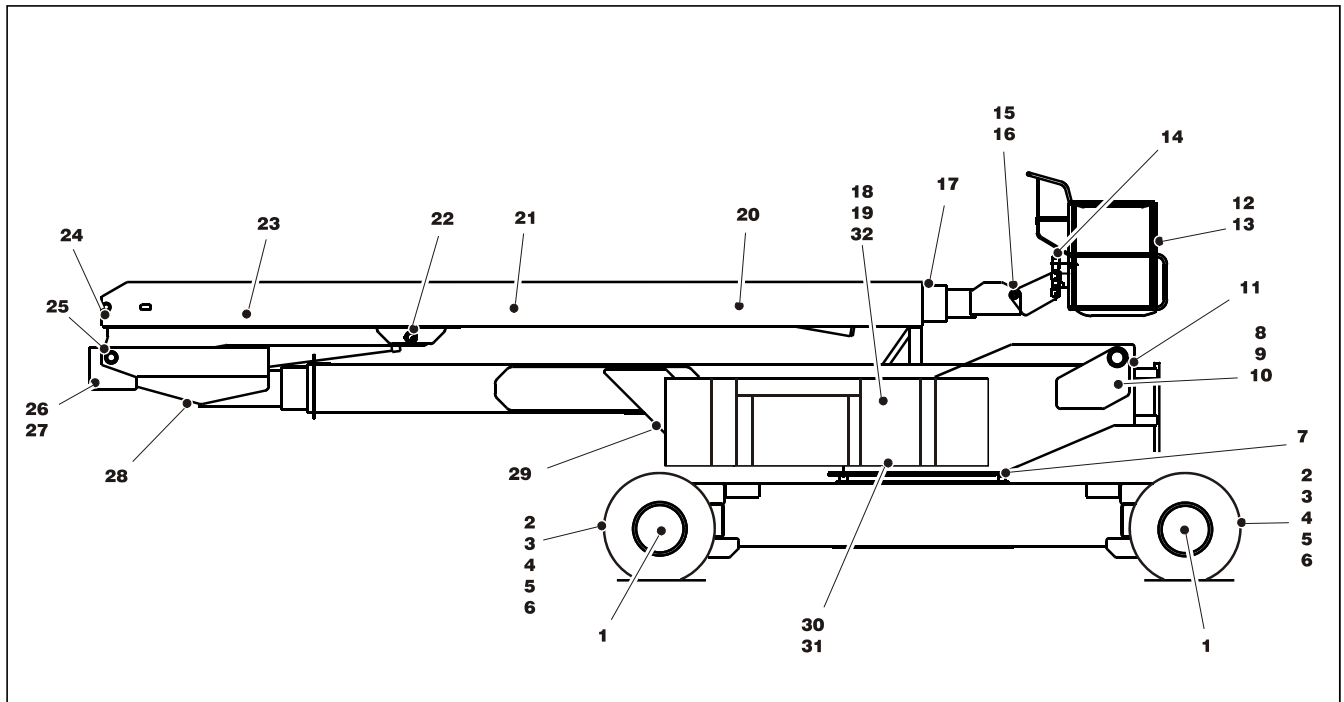

Figure 1-1. Operator Maintenance & Lubrication Diagram
**NOTE:** The following numbers correspond to those in Figure 1-1., Operator Maintenance & Lubrication Diagram.
**NOTE:** The lubrication intervals in Figure 1-1., Operator Maintenance & Lubrication Diagram are equivalent to the following: